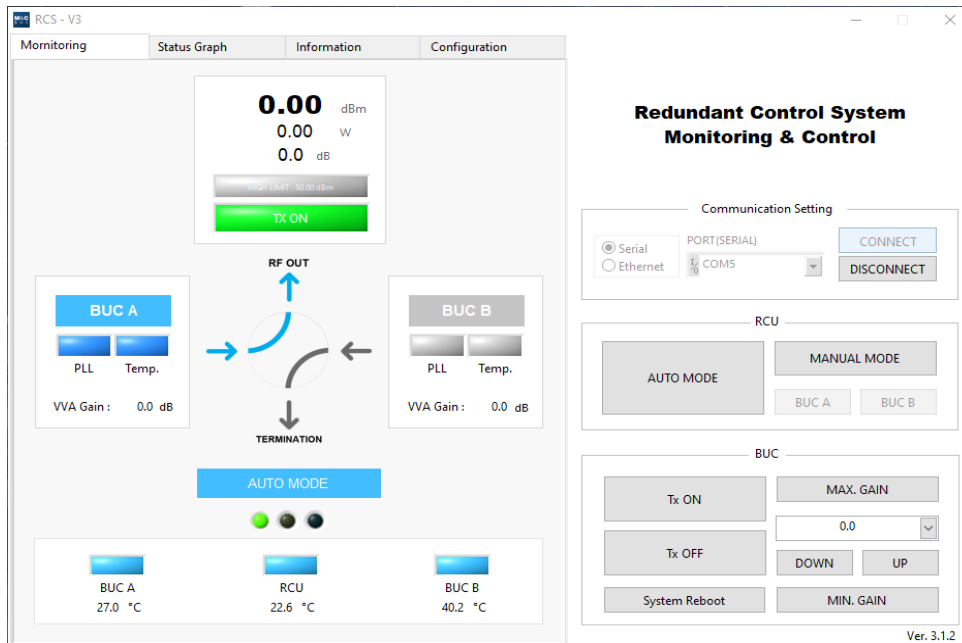

Figure 3.8 - RCS Default Status Without IF Signal
- 4) BUC_A Status Indicator of Tx On/Off will turn into green as shown in **Figure 3.8**.